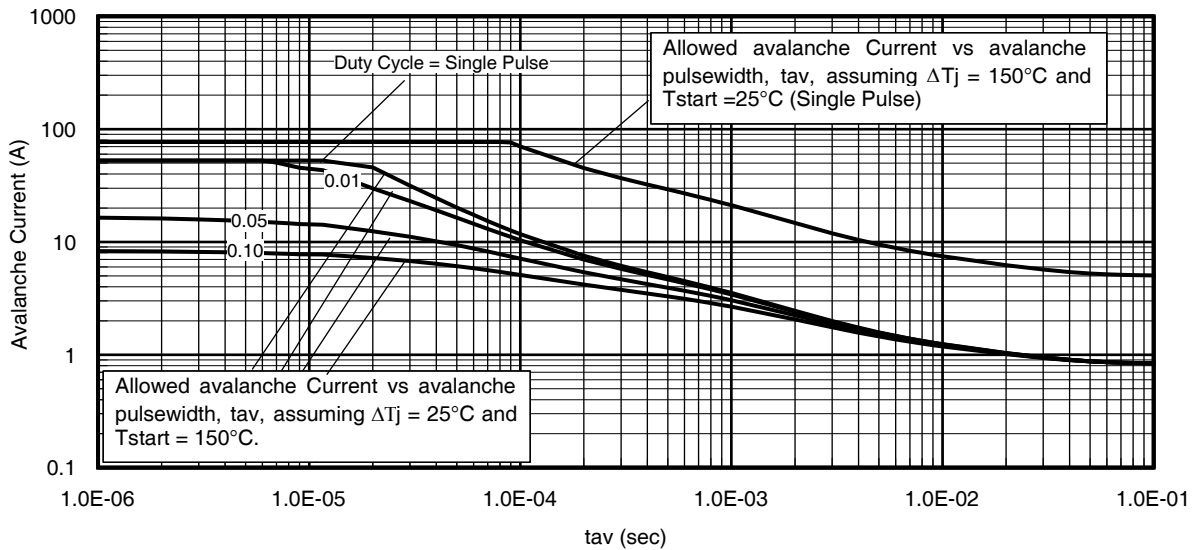

Fig 15. Avalanche Current vs. Pulse Width
| I_{AR} | Avalanche Current ① | See Fig 15, 15, 23a, 23b | A |
Notes on Repetitive Avalanche Curves, Figures 15, 16: